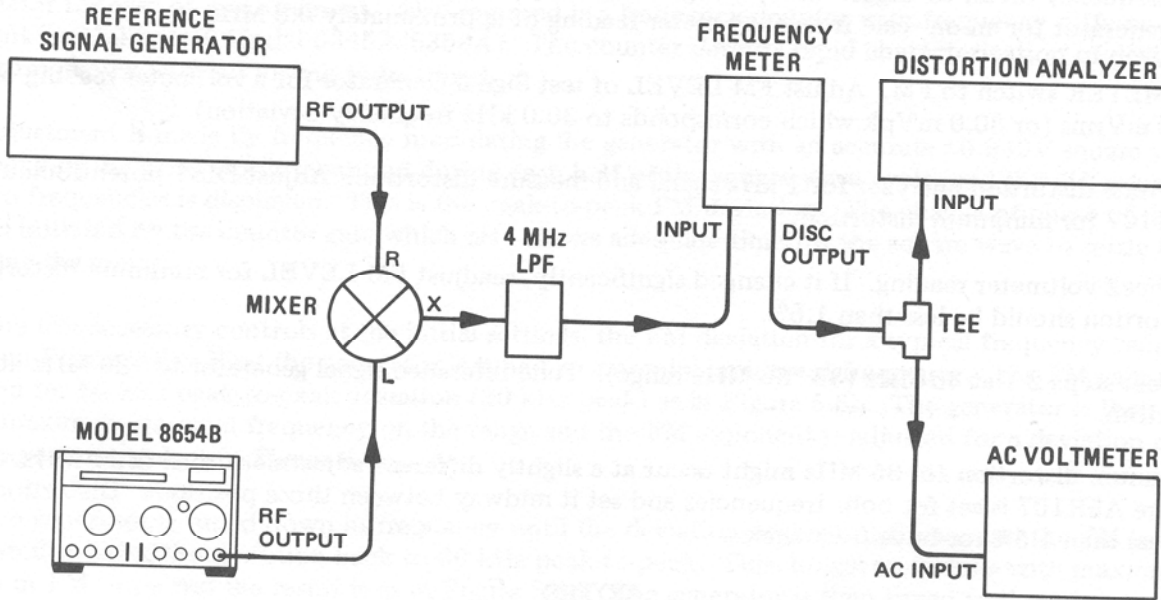

Figure 5-5. FM Distortion Adjustment Setup
2. Connect equipment as shown in Figure 5-5 after setting test Signal Generator controls as follows: